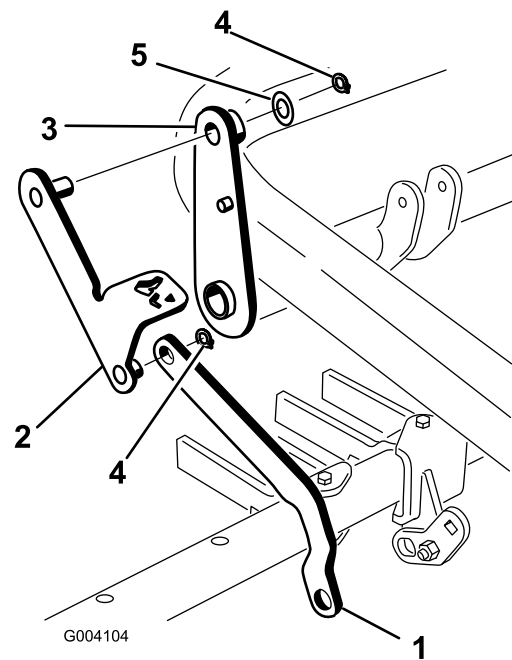

Figure 14
- Slide the end of the toolbar link over the short post on the pedal lever assembly and secure it with a retaining ring (Figure 14).
- Install the post on the other end of the pedal lever assembly through the top of the lever assembly and secure it using a washer (7/8 inch) and retaining ring (Figure 14).